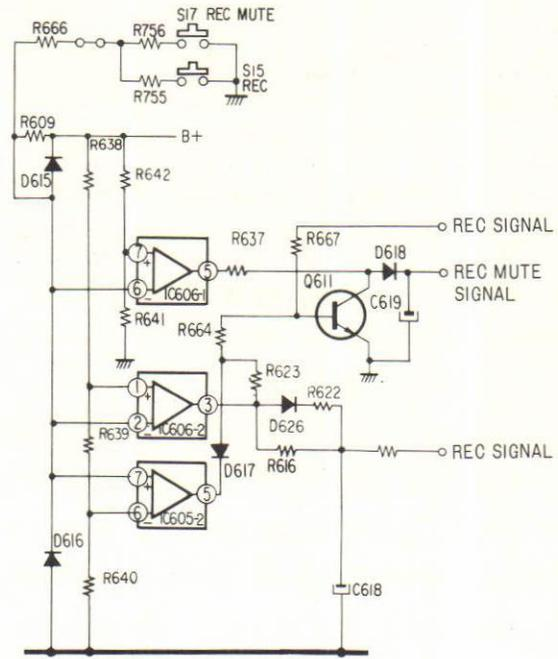

Fig. 30
- (b) The modes of REC and REC MUTE in recording are determined by the OP amplifiers as in (a). (Fig. 30)